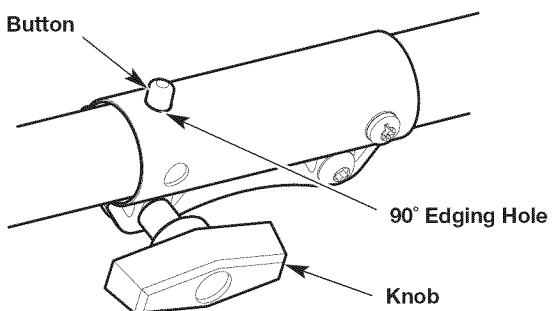

Fig. 14
1. Turn the knob counterclockwise to loosen the coupler (Fig. 14).
2. Press and hold the release button (Fig. 14).
3. Rotate the attachment until the release button snaps firmly into the 90° edging hole (Fig. 14).
4. Turn the knob clockwise to tighten the coupler (Fig. 14).